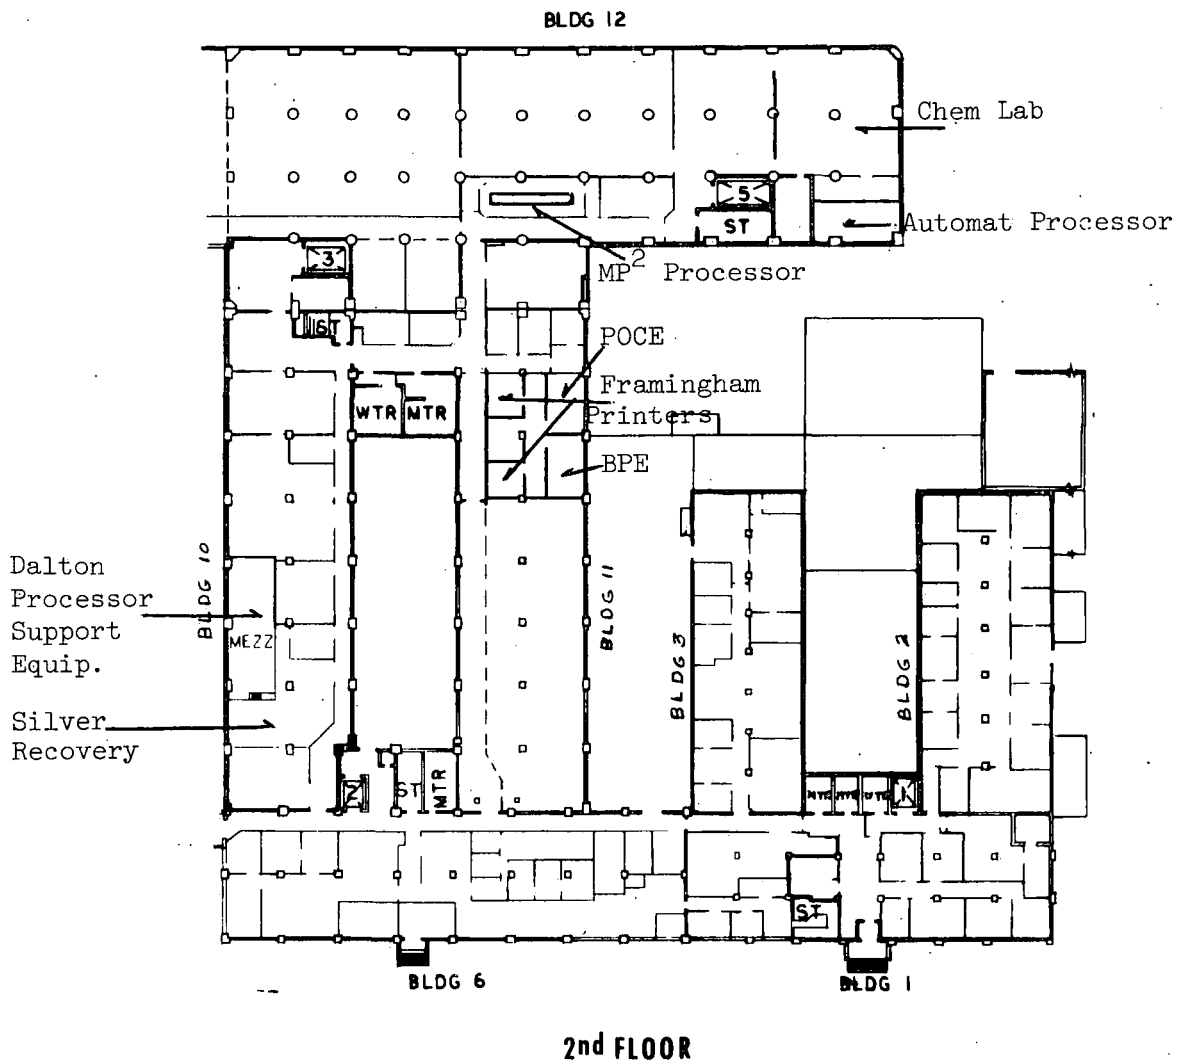

Figure 4
- 2nd Floor - Bldgs. 1-2-3-10-11-12 (Figure 4)